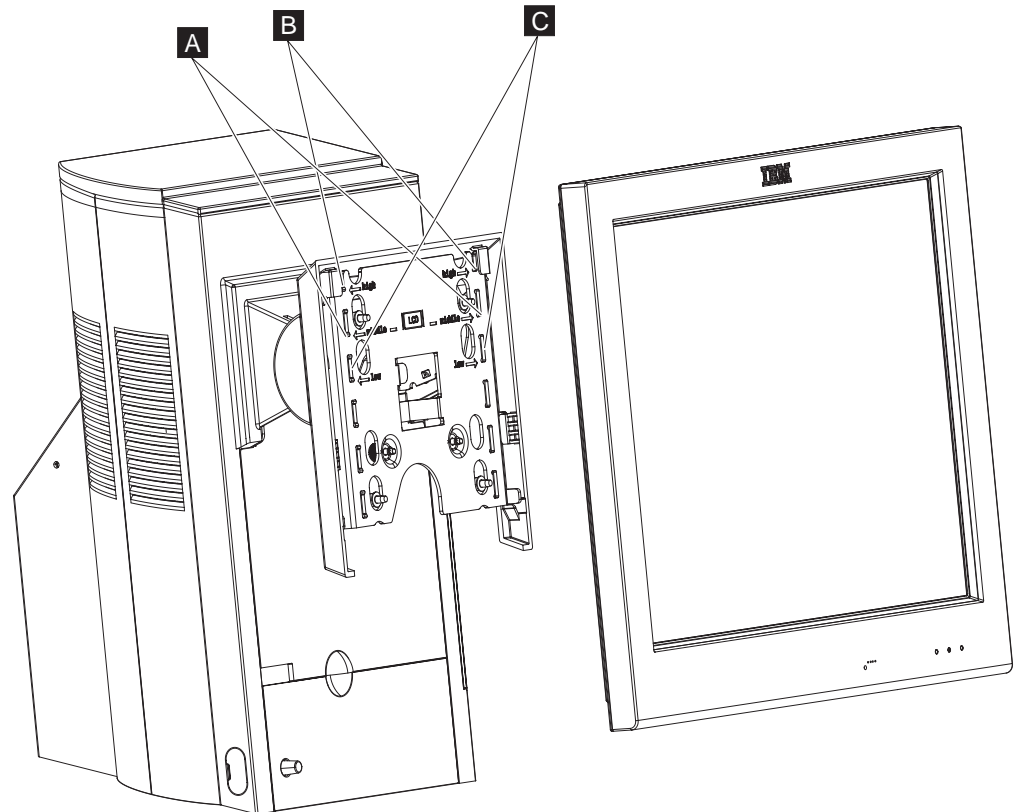

Figure 24. Display tablet positions
- Top, **B** in Figure 24.
- Middle, **A** in Figure 24.
- Bottom, **C** in Figure 24.